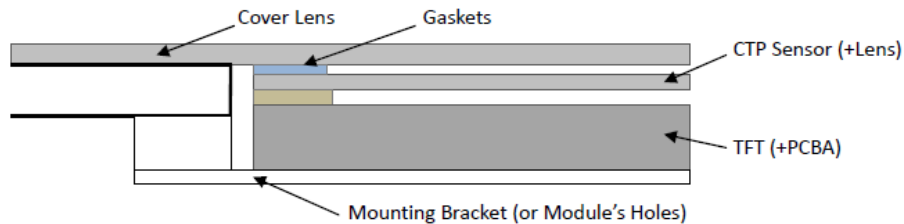

Figure 3
**10.3 Additional Cover Lens Mounting (Figure 3)**
10.3 覆加盖板 (附图 3)